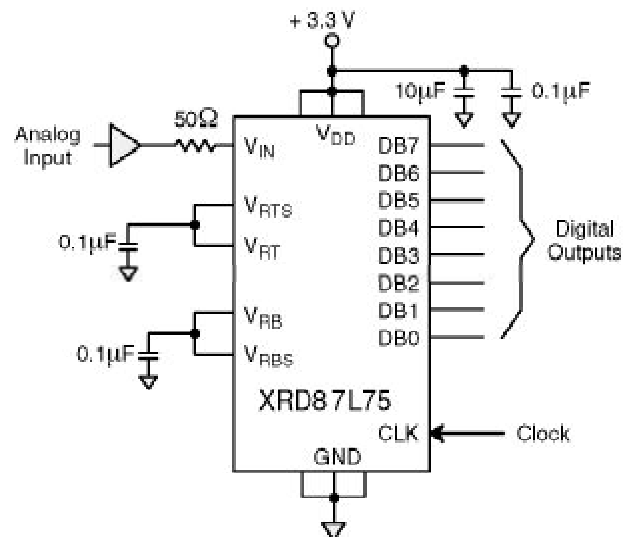

Figure 5. Typical Circuit Connections
- See V_{IN} input equivalent circuit (Figure 5). Switched capacitor analog input requires driver with low output resistance.
The reference can be biased internally by shorting V_{RT} to V_{RTS} and V_{RB} to V_{RBS} . This will generate $0.4V$ at V_{RB} and $1.72V$ at V_{RT} (see *Figure 5*.).